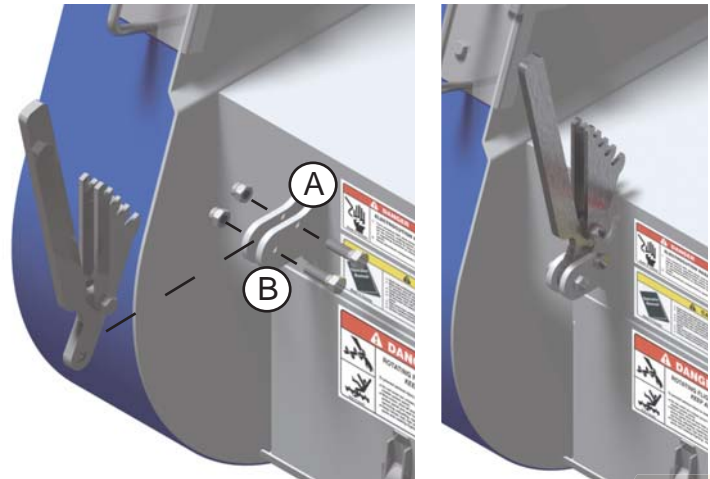

Figure 45
Using the remaining one (1) 3/8" x 1 1/2" Bolt and one (1) 3/8" Nylon Locknut, secure the Ratchet Assembly into place on the Head Section. The bottom hole on the Ratchet Assembly should be aligned with the front hole (*Hole B*) on the Ratchet Mounting Plates. (see **Figure 45**)